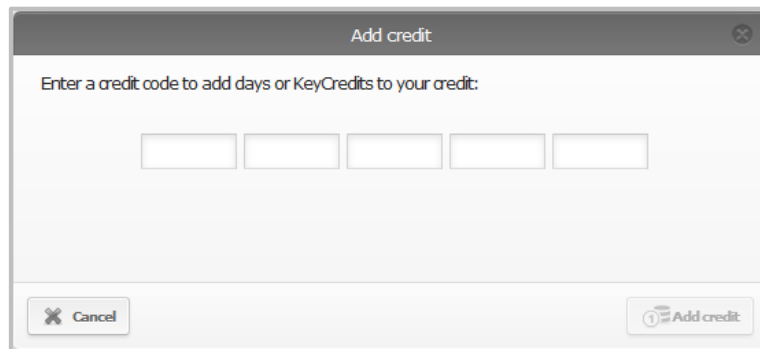

Figure 48: Topping up credit
- Enter the code in the "Add credit" (Figure 48: Topping up credit) application window.